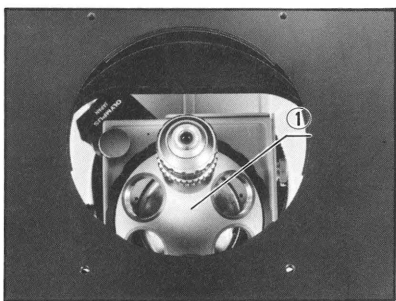

Fig. 3
- 1) Remove the stage insert plate from the stage, and screw the objectives into the nosepiece ①. (Fig. 3)